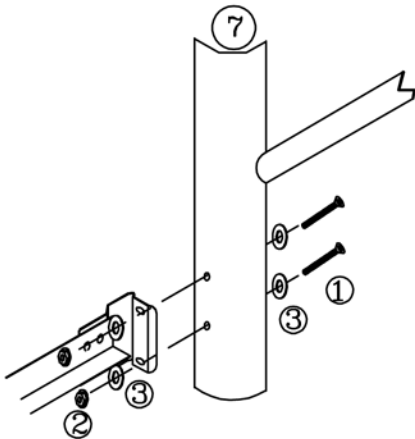

FIGURE 4
- Position footboard panel and align holes in the post (7) with holes in the frame bracket. See Figure 4
- Place 2 washers (3) over screws (1) insert through holes located in post (7). (See Figure 4)
- Place a washer (3) first and then a nut (2) on each screw. Hand, DO NOT TIGHTEN screws all the way.
- Tighten all screws securely using the Allen wrench (4).